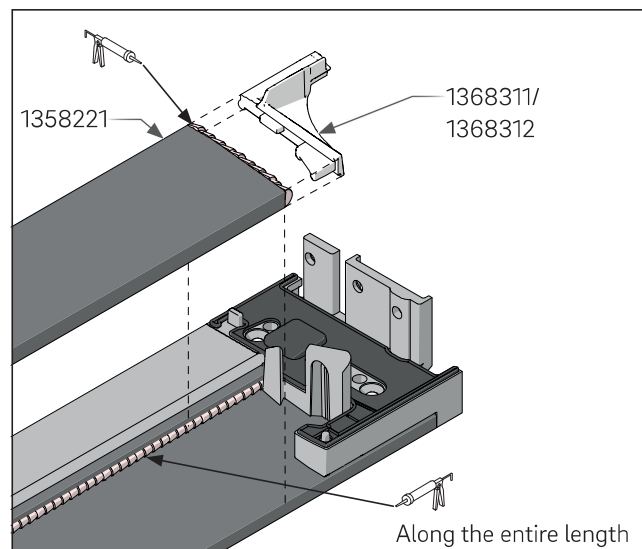

Fig. 9: Installation of the drainage profile 1358221
- To do this, cut the drainage profile to length: Frame glass rebate —86 mm and attach the end caps. The joint between the end cap and the drainage profile must be sealed with silicone (fig. 9).